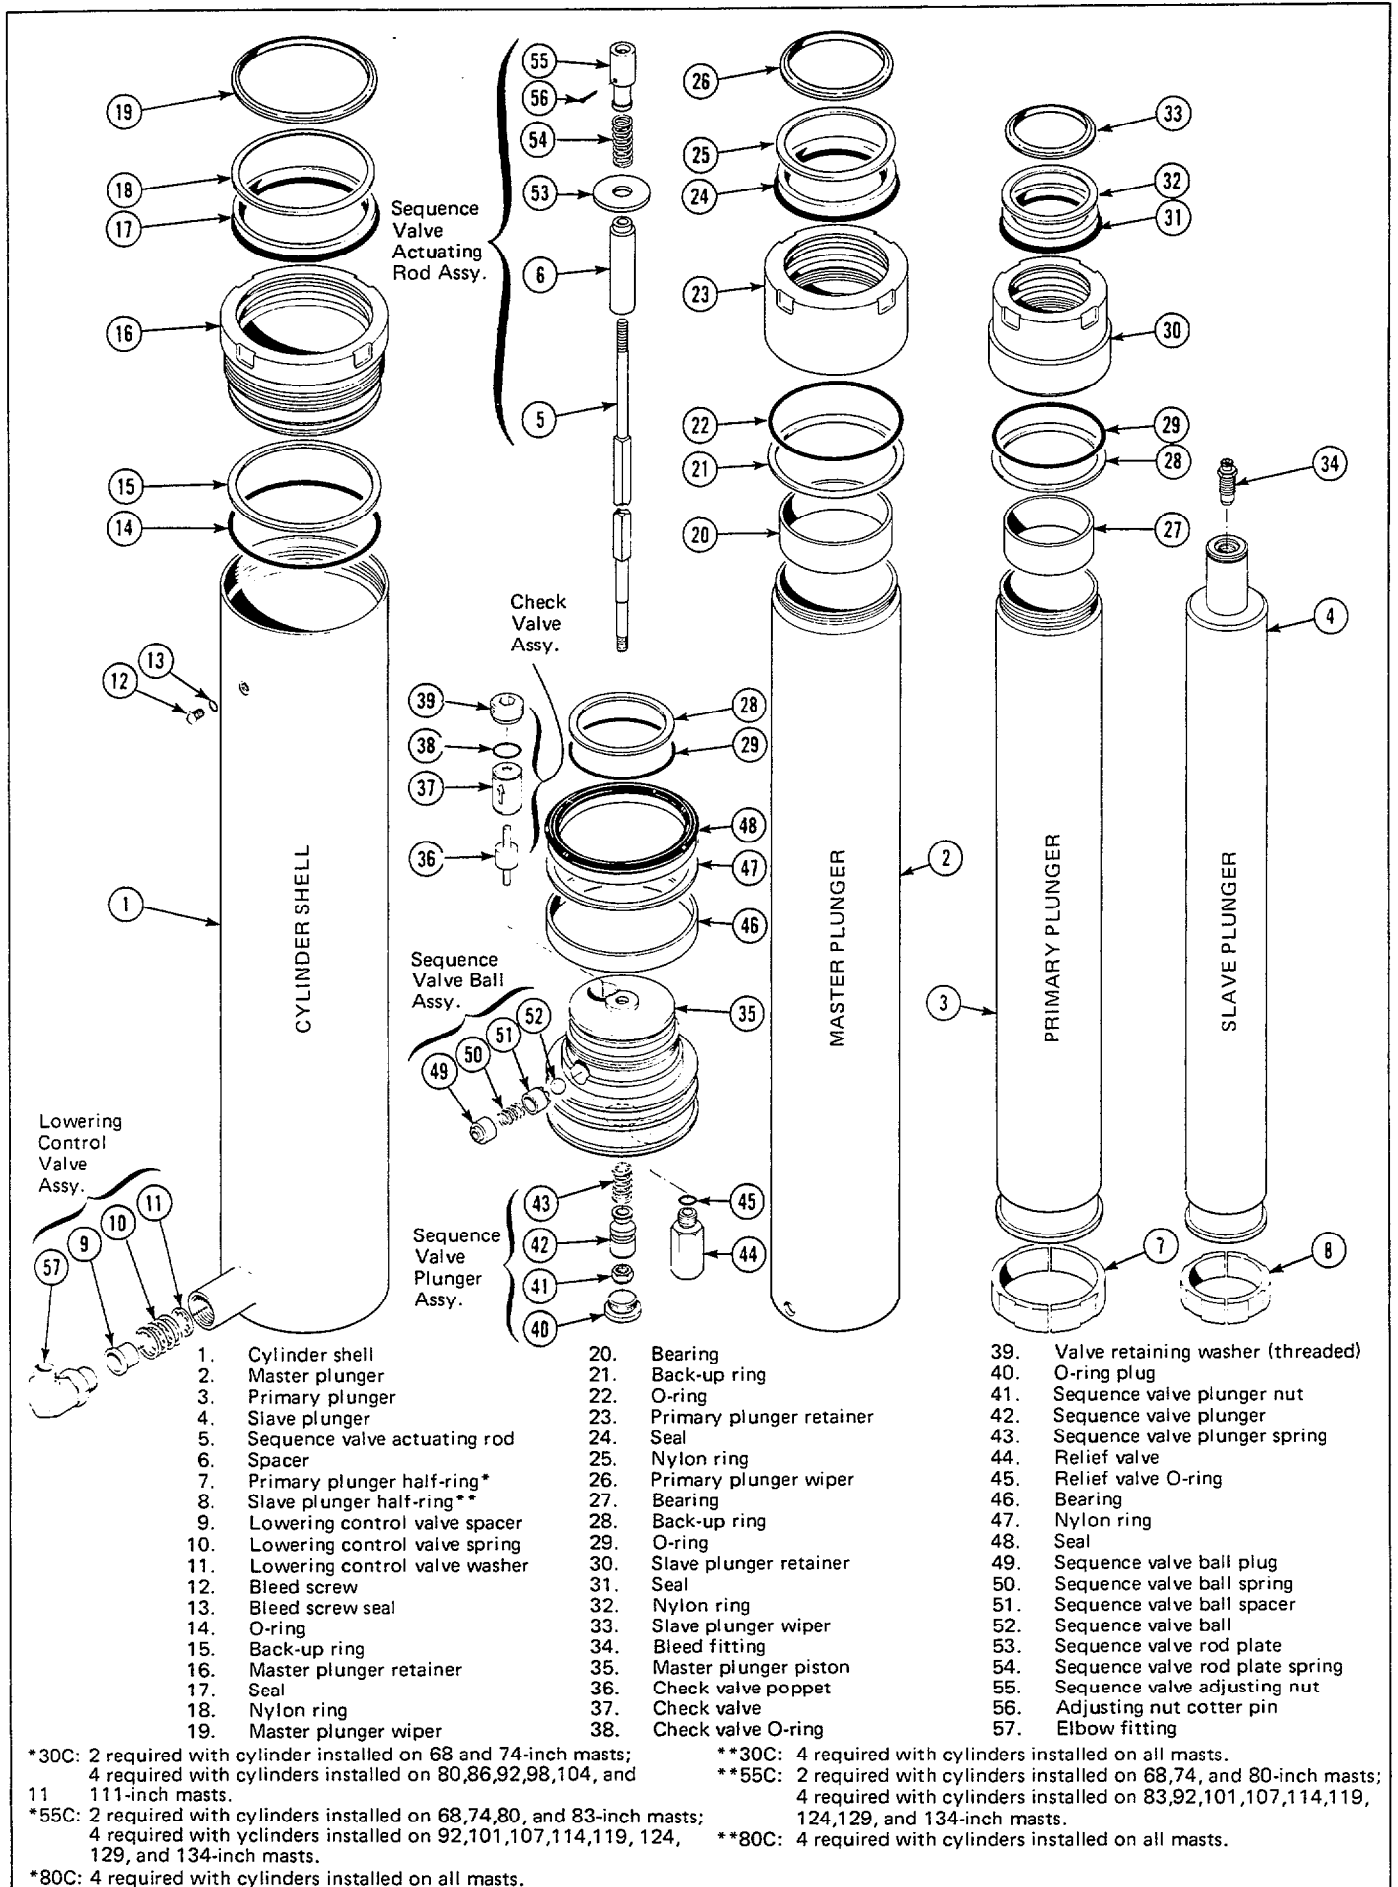

Figure 6. Exploded View of Hoist Cylinder Assembly
The hoist cylinder, shown in Figure 6, is a three-stage, displacement cylinder. It consists of a shell with three hollow, telescoping plunger assemblies. The slave plunger (smallest diameter) telescopes into the primary plunger, and the primary plunger telescopes into the master plunger (largest diameter).
IMPORTANT: During cylinder operation, the pressure produced in the cavity between the cylinder shell and the master plunger is greater than that produced at the cylinder base (truck pressure). Thus, the seal assembly on the master plunger piston (item 35, Figure 6) **must** be installed with the lip toward the plunger end of the cylinder.
1. Use a claw type spanner wrench to unthread the master plunger retainer. (Item 16, Figure 6.)